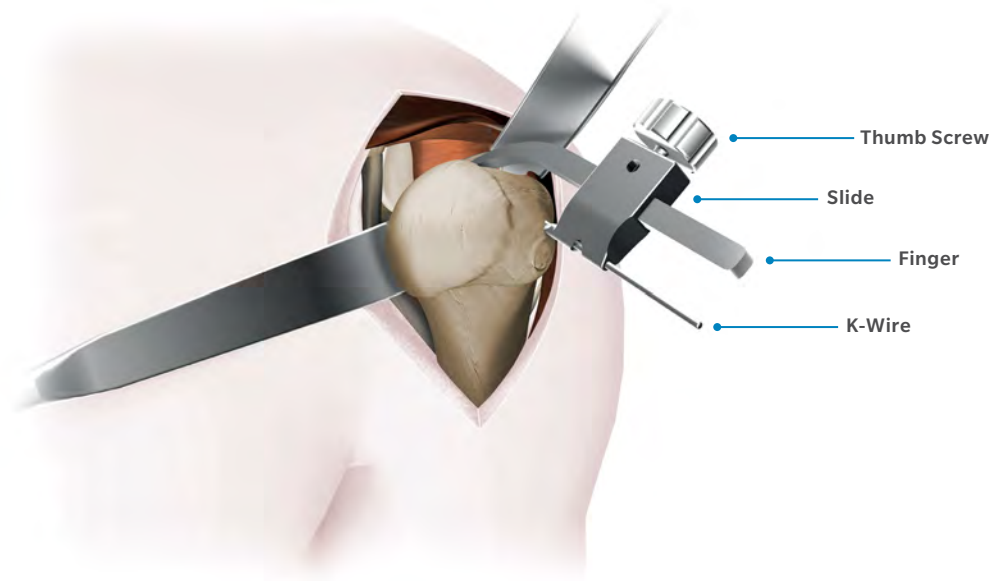

Figure 6
Two humeral head resection techniques are possible: a freehand cut and an alignment guide “Supraspinatus” resection technique (Figure 6).
- In the superior and anterior superior aspects, the anatomical neck corresponds to the insertions of the tendons (Figure 6) of the cuff supraspinatus and uppermost section of the subscapularis.